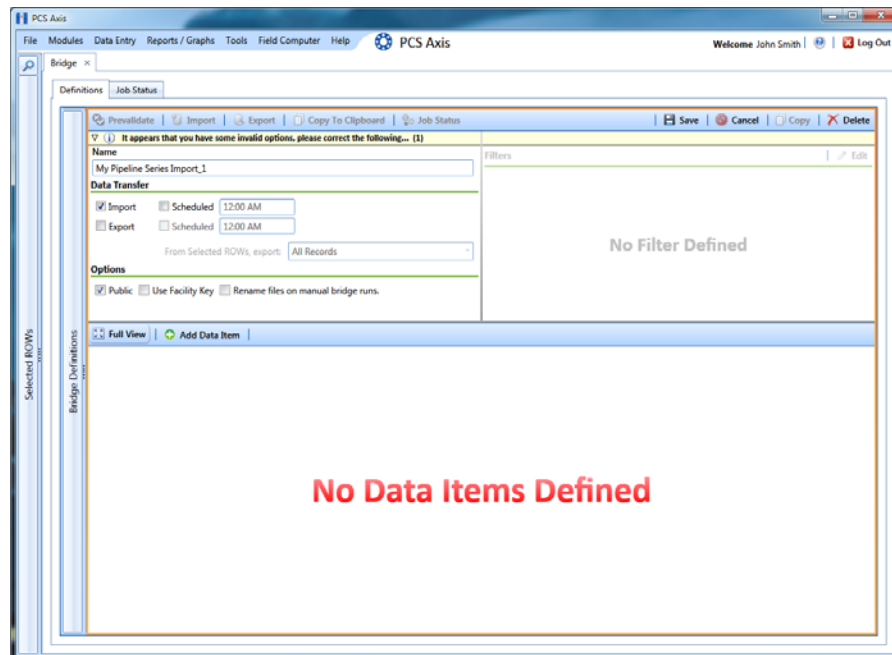

Figure 9-49. Bridge Import Definition
- 5 Set properties in the *Options* group box as follows (Figure 9-49, page 436):